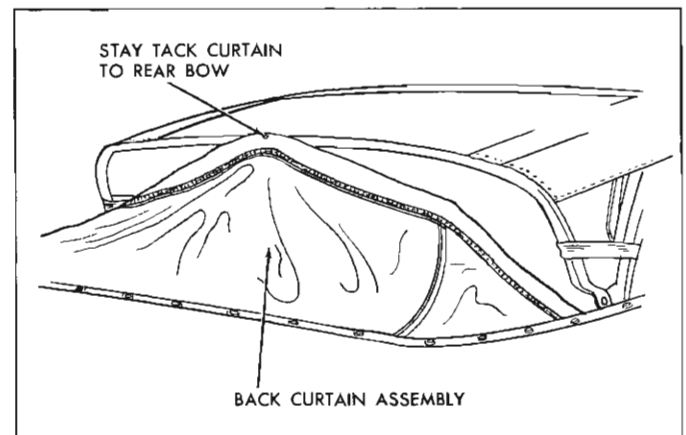

Fig. 65—Stay Tacking Back Curtain at Rear Bow
16. Secure back curtain assembly with one tack to rear bow to prevent damage to plastic sheet (fig. 65).